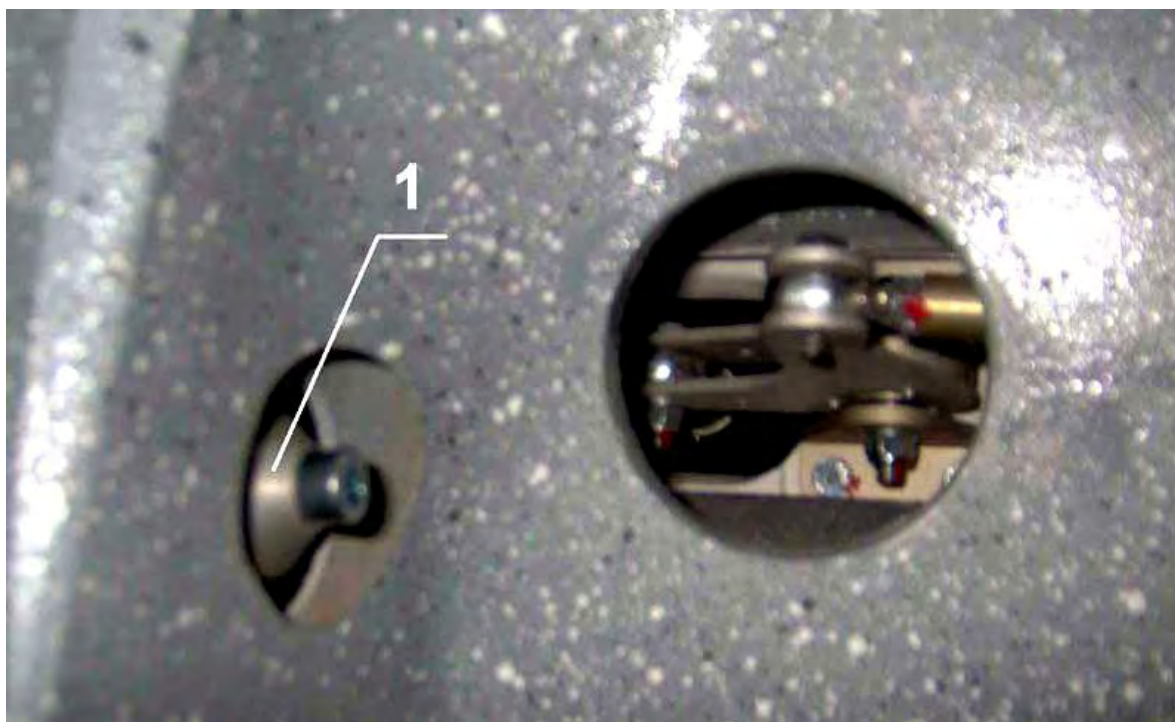

Fig. 14
- 12) Repeat item 11 for the second main bolt KA2000010.
- 13) Secure the main bolts with the cap and bolt, e.g. set the caps KA2000013 (1) onto the main bolts KA2000010 and fix them by bolts M8x35 C9996078A (Fig. 14). Torque value for the main bolts is 200 lb-in / 22,5 Nm.
- 14) Match the holes in the tip SMC6 of the rod KA6020050R with holes of the right wing lever KA6020040R (Fig. 14).